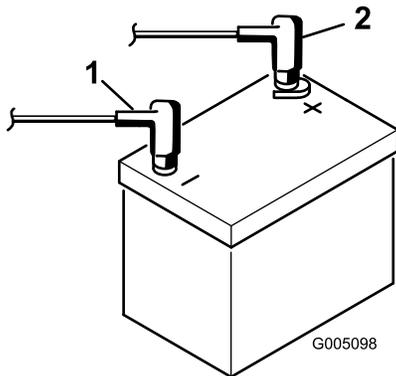

Figure 4
8. Install the positive cable (red) to the positive (+) terminal and the negative cable (black) to the negative (-) terminal of the battery and secure them with bolts and nuts (Figure 4).